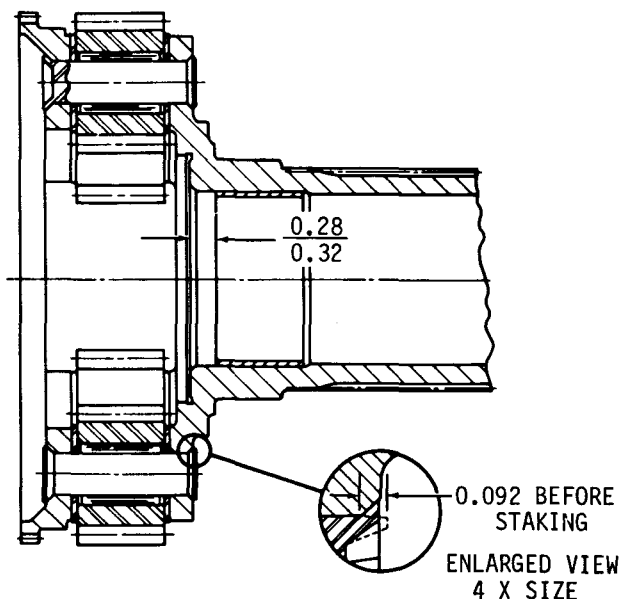

Fig. 6-25. Forward planetary carrier assembly—cross-sectional view
(1) In TRT 2221-3, 2421-3 models, if bushing 4 or 31 (B, foldout 9) was removed, install a new bushing into the carrier assembly. Press it to the 0.28- to 0.32-inch dimension shown in figure 6-25.
(2) Make a pinionalining tool by grinding a used spindle 0.005 inch undersize.
(3) Install a thrust washer 7 (B, foldout 9) onto the alining tool.
(4) Coat the inside diameters of pinions 9 with oil-soluble grease. Install a pinion onto the alining tool.
(5) Install twenty rollers 8 into the space between the bore of pinion 9 and the alining tool. Install a second thrust washer 10 onto pinion 9.
(6) Install the assembled pinion group into carrier 5.
(7) Assemble and install the five remaining pinion groups as outlined in (3) through (6), above. Aline the groups with the spindle bores in the carrier.
(8) Position the carrier assembly, hub or shaft upward, in a press and install spindles 6 to the 0.092 dimension shown in figure 6-25.